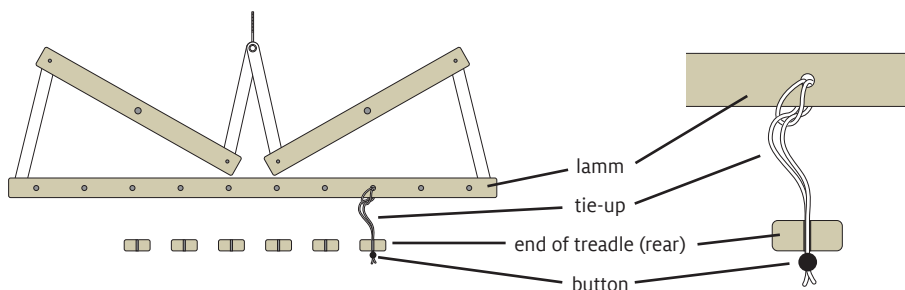

FIGURE 7: INSTALLING TIE-UPS
20. Tie shafts to a treadle by slipping a tie-up into the slot in a treadle (Figure 7). Work from the front lamm to the rear lamm for each treadle.